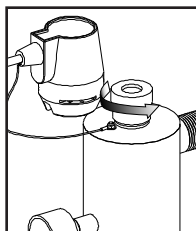
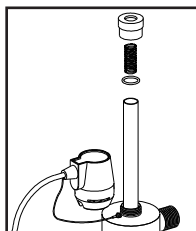

FIGURE 3A
FIGURE 3B
- Remove the aluminum retaining nut by turning counter clockwise (Figure 3a). Place a small pail under the reactor chamber to catch any water that may leak from the system. Grasp the quartz sleeve and fully remove from the reactor chamber. As with the lamp, make sure the sleeve is removed from the reactor chamber being careful not to angle the sleeve as it is removed from the reactor (Figure 3b) to avoid breakage.